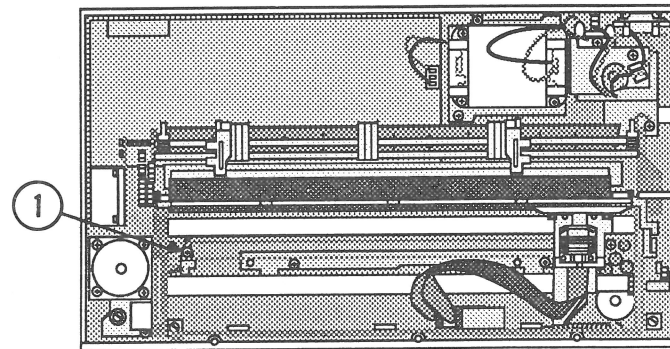

FIGURE 2
3. Connect the multimeter between pins 1 and 2 of the removed connector and toggle the home position switch (Figure 2, #1) with your finger.